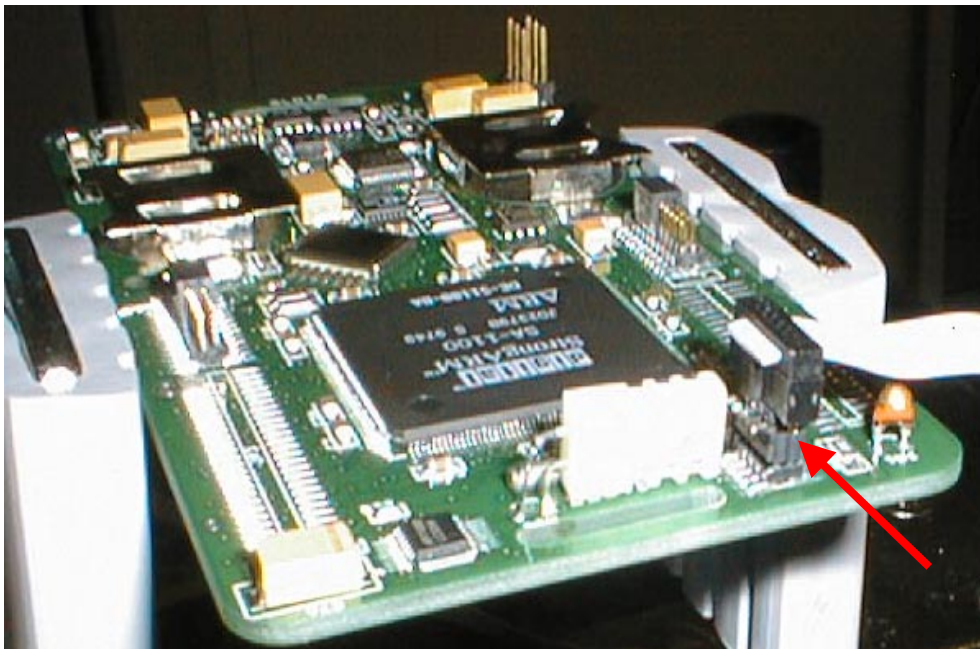

Figure 5: Badge JTAG connection
2. Connect the TAP master cable to the badge as shown in Figure 5. The TAP master cable can be connected to the badge with the power turned on. Note the spacer on the cable connector attached to the badge. This allows the cable connector to physically clear the crystal.